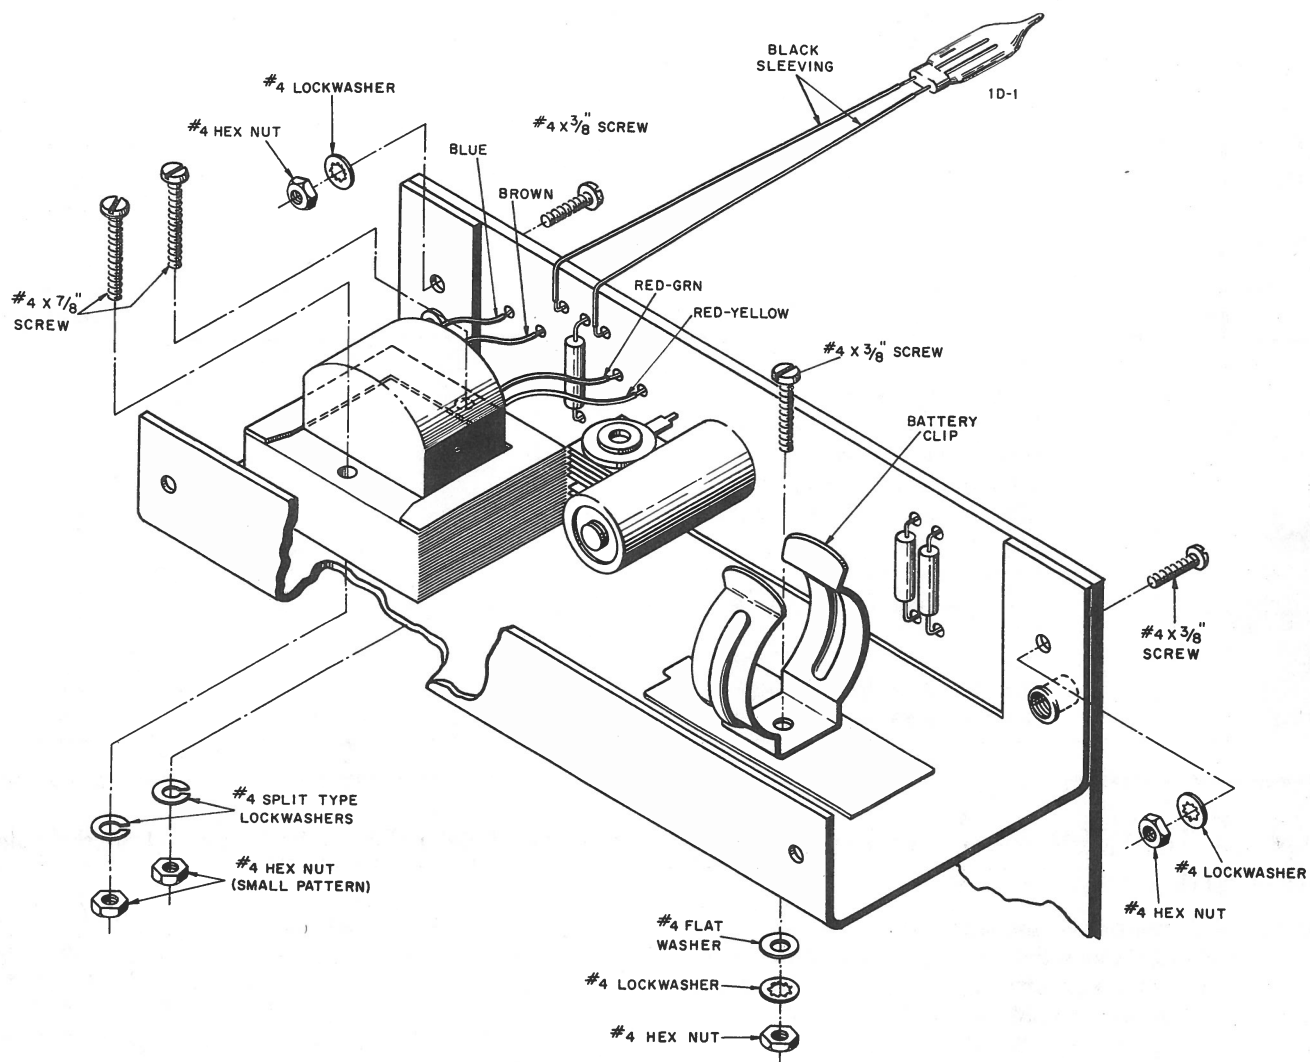

FIGURE 12
1. ☒ Select the upper support bracket. Position the bracket on the laminated board as shown in Figure 12, inserting the two spacers attached to the bracket through the holes provided in the laminated board. From the rear of the board, insert a #4 x ¾-inch screw in each of the two mounting holes just above the spacers. Fasten with a #4 lockwasher and a #4 nut on each screw.
4. ☒ Mount the battery clip on the support bracket with a #4 x ¾-inch screw, #4 flat washer, #4 lockwasher, and #4 hex nut as shown in Figure 12.
6. ☒ Insert the blue lead from T-1 in the hole in the laminated board marked "BLU". (S)
7. ☐ Insert the brown lead from T-1 in the hole marked "BRN". (S)
8. ☒ Insert the red-green lead from T-1 in the hole marked "RED-GRN". (S)
9. ☒ Insert the red-yellow lead from T-1 in the hole marked, "RED-YEL". (S)
10. ☒ On the underside of the bracket, insert the red-black lead from T-1 in the hole marked "RED-BLK". (S)
11. ☒ Insert the black lead from T-1 in the hole marked "BLACK". (S)
14. ☒ Insert one lead of the lamp in one of the pins marked "ID-1" on the laminated board. (S)